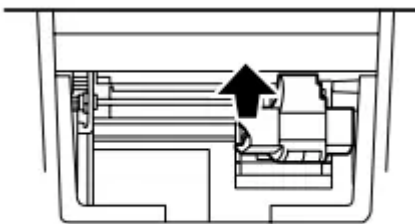

Fig. 2
3. Hold the top of the ink roller and remove the roller by pulling it toward you and then upward. (Fig. 2)